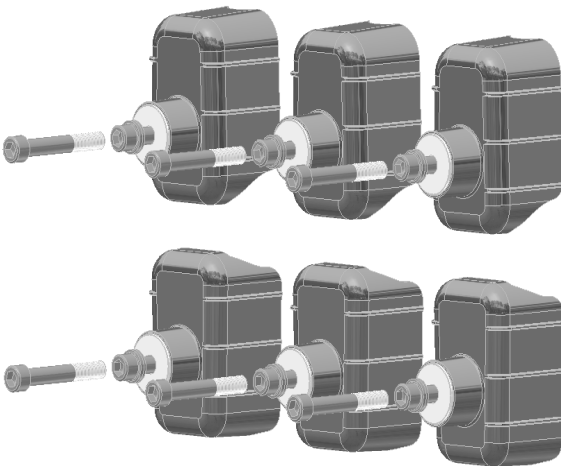

Figure 7
1) Parameter describes the distance between bus bar connection points on the upper and lower terminals of the ISM15_Shell_2 per Figure 7 and Figure 8.